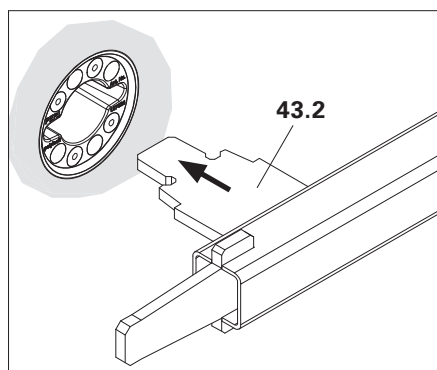

Fig. D1.04c
4. Insert tube supports with wings (43.2) into the cleaned openings. (Fig. D1.04c)